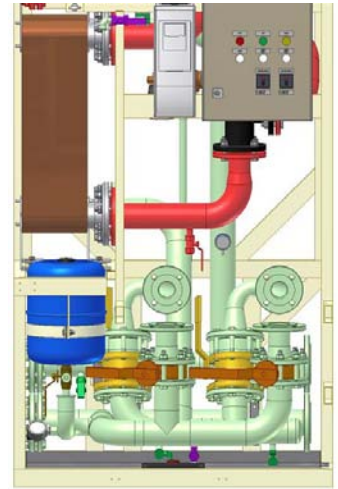

Figure 5.1-10
- Valves V161...V162 open (violet colour in Figure 5.1-10)
- Valve V160 lever down (brown colour in Figure 5.1-10)
- Valves V140...V141 closed (yellow colour in Figure 5.1-10)
- Valves V142...V143 open (orange colour in Figure 5.1-10)
- Valves V230...V232 closed (green colour in Figure 5.1-10)